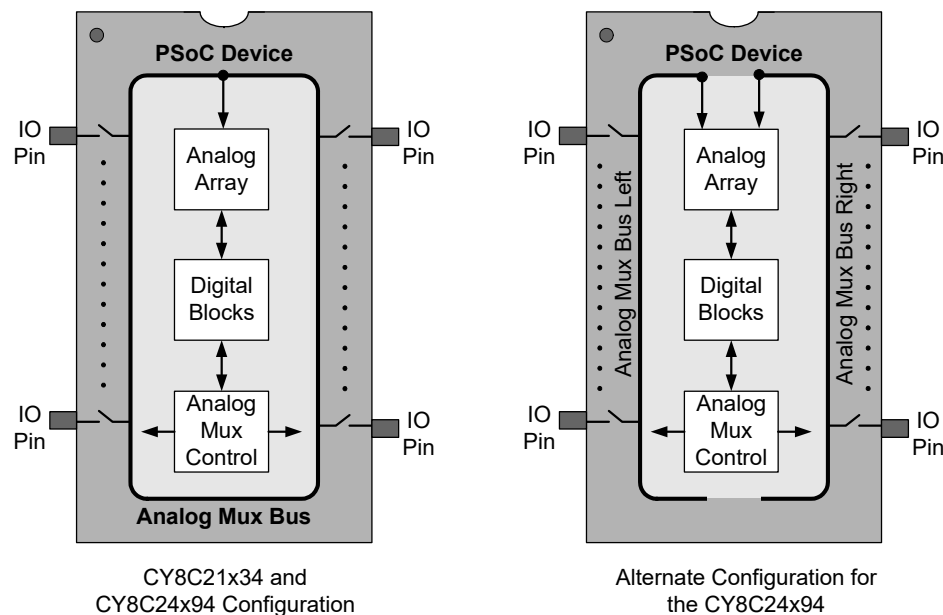

Figure 33-1. Analog Mux System for the CY8C24x94, CY8C21x34, CY8C21x34B, CY7C64215, CY7C603xx, and CYWUSB6953
Any number of pins can be connected simultaneously, and dedicated support circuitry allows selected pins to be alternately charged high or connected to the bus. The analog bus can be connected as an input into either the positive or negative inputs of any analog continuous time (CT) block. A block diagram is shown in Figure 33-1.
In the CY8C24x94 and CY7C64215 PSoC devices, the Analog Mux Bus can be split into two separate nets, as shown in Figure 33-1. The two analog mux nets can be connected to different analog columns for simultaneous signal processing.
The analog bus forms a multiplexer across many IO pins. This allows any of these pins to be brought into the analog system for processing, as shown in Figure 33-1. The Port 0 pins are also brought through separate mux paths to the continuous time block, so Port 0 inputs can be routed to the analog system by either path. In the CY8C24x94 and CY7C64215, some Port 2 inputs have a dedicated path to switched capacitor blocks.
The bidirectional nature of the analog mux switches allows a direct connection between any of the IO pins, as shown in Figure 33-1. Enabling two (or more) pins at the same time connects these pins together, with approximately 400 ohms of resistance between each pin and the analog mux bus. As long as the clock choice in the AMUX_CFG register is set to the fixed '0' case, the switches will be static, controlled only by the state of the individual switch enable bits in the MUX_CRx registers. The crosspoint can be reconfigured at any time and the user can provide a break-before-make function with firmware if needed.